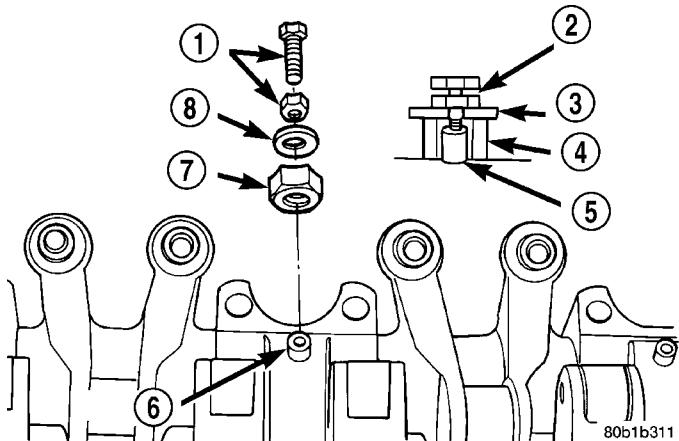

Fig. 40 Rocker Arms and Shaft - Disassembly
(1) Remove rocker arm and shafts. (Refer to 9 - ENGINE/CYLINDER HEAD/ROCKER ARM / ADJUSTER ASSY - REMOVAL)
(2) Remove dowel pin using a 4 mm screw, nut, spacer, and washer installed into the pin (Fig. 40). Thread the screw into the pin, then loosen the nut on the screw. This will pull the dowel out of the shaft support. Do not reuse dowel pins. Remove the rocker arms and pedestals in order.